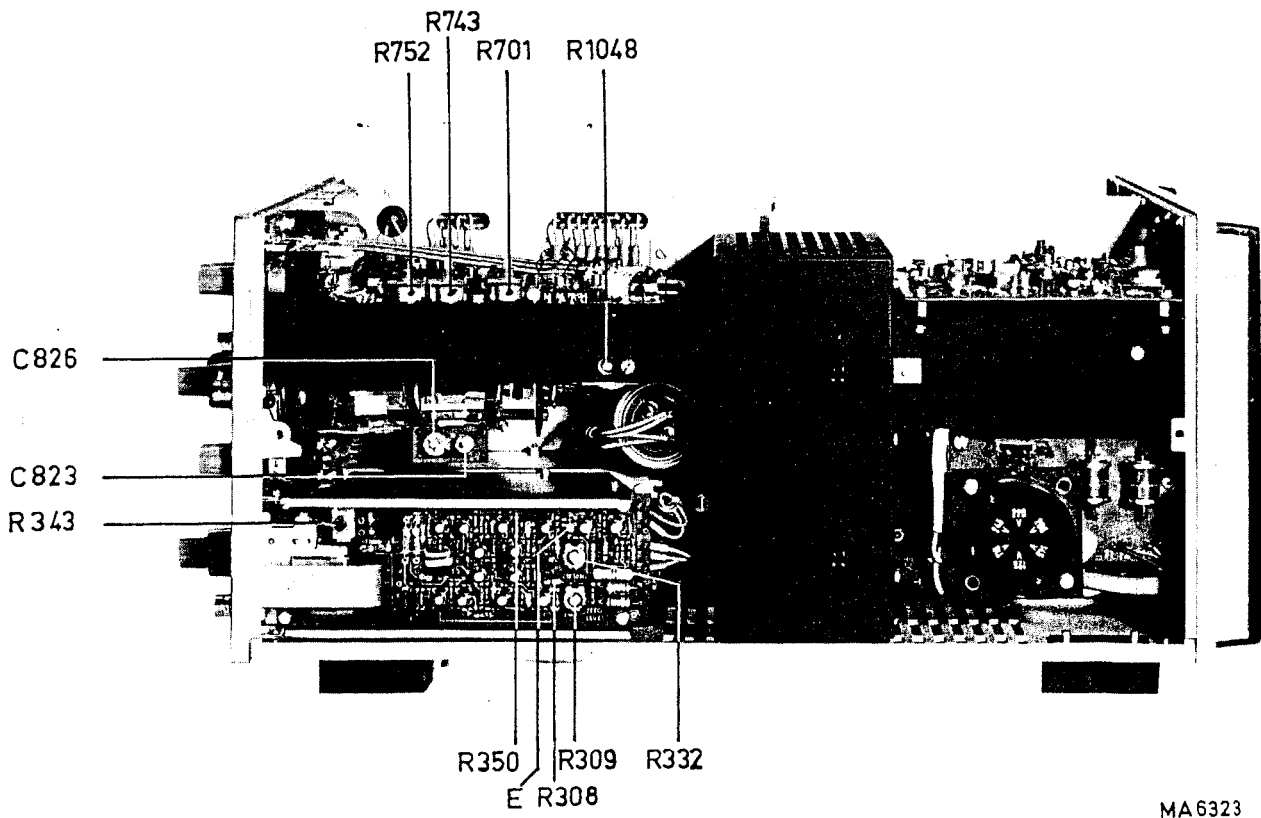

Fig. 51. Checking and adjusting; right-hand side view
- Measure the voltage on the emitter of transistor TS239 (test point E, Fig. 51). If this voltage is 0 V and the voltage on the delay line is 0 V, then the vertical intermediate amplifier is faulty.